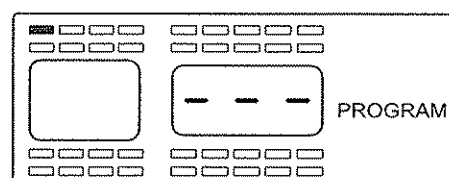

Figure 2-1
2. Press and hold the **PROG** button for approximately 5 seconds, the monitor screen will automatically change over to the program mode, and then you can release the button. When you have entered this mode the monitor will display all of the tire positions and the word "PROGRAM" will be displayed (see **Figure 2-1**). As you will see by **Figure 2-1** the monitor can be set up to display a motor home pulling a car or trailer, or a car / truck pulling a trailer.